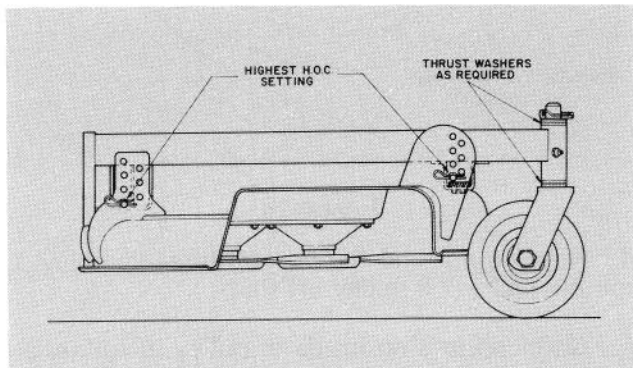

Figure 14
1. Check to make sure front height-of-cut pins are resting properly on frame cushions (Fig. 14).
2. Raise height-of-cut to the 3½" (89 mm) or 4 in. (102 mm) position (Fig. 14): refer to Adjusting Height-Of-Cut, page 6.
A. Cutting units usually operated at 1 to 2 in. (25 to 51 mm) height-of-cut should have the low side of the cutting unit raised. Remove the lynch pin securing castor wheel on low end (Fig. 14) and remove castor assembly.
B. Transfer one thrust washer from top side of castor shaft to lower side, install castor assembly and compare blade height of all blades; refer to items 3 through 7. Continue adding thrust washers if height still does not meet requirements.
- C. If cutting unit is operated at 2 to 4 in. (51 to 102 mm) height-of-cut, lower the high side of cutting unit. Remove lynch pin of castor at high end of unit and remove castor assembly (Fig. 14).
- D. Transfer one thrust washer from lower side of castor shaft to top side, install assembly and compare blade height of all blades; refer to items 3 through 7. Repeat procedure if height still does not meet requirements.